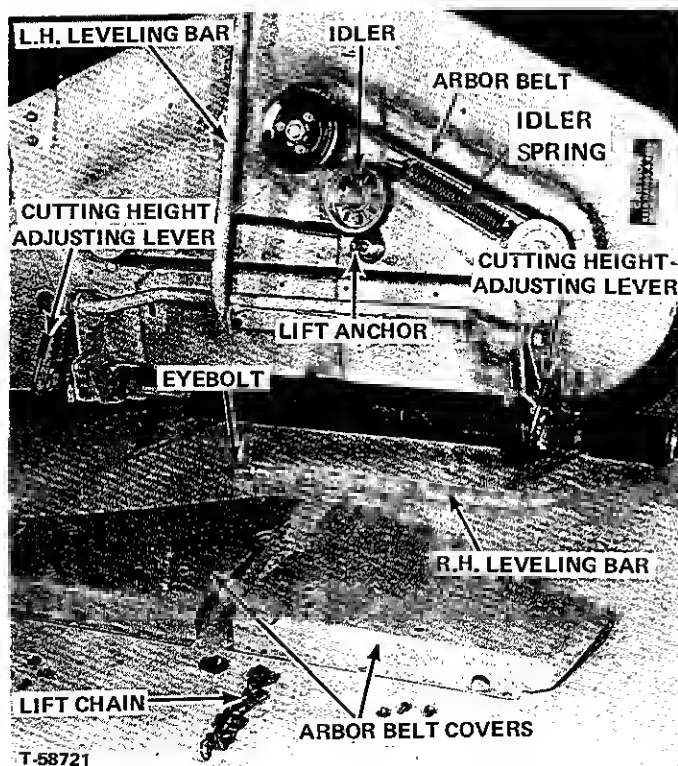

Figure 12.
2. See Figure 12. To adjust, turn the eyebolts on the front end of the leveling bars.
3. Remove the right hand leveling bar to permit lifting right arbor cover over the lift anchor (Figure 12). 3
4. Unhook idler spring from idler and remove belt from arbor pulleys. Install new belt as shown in Figure. 12. 3